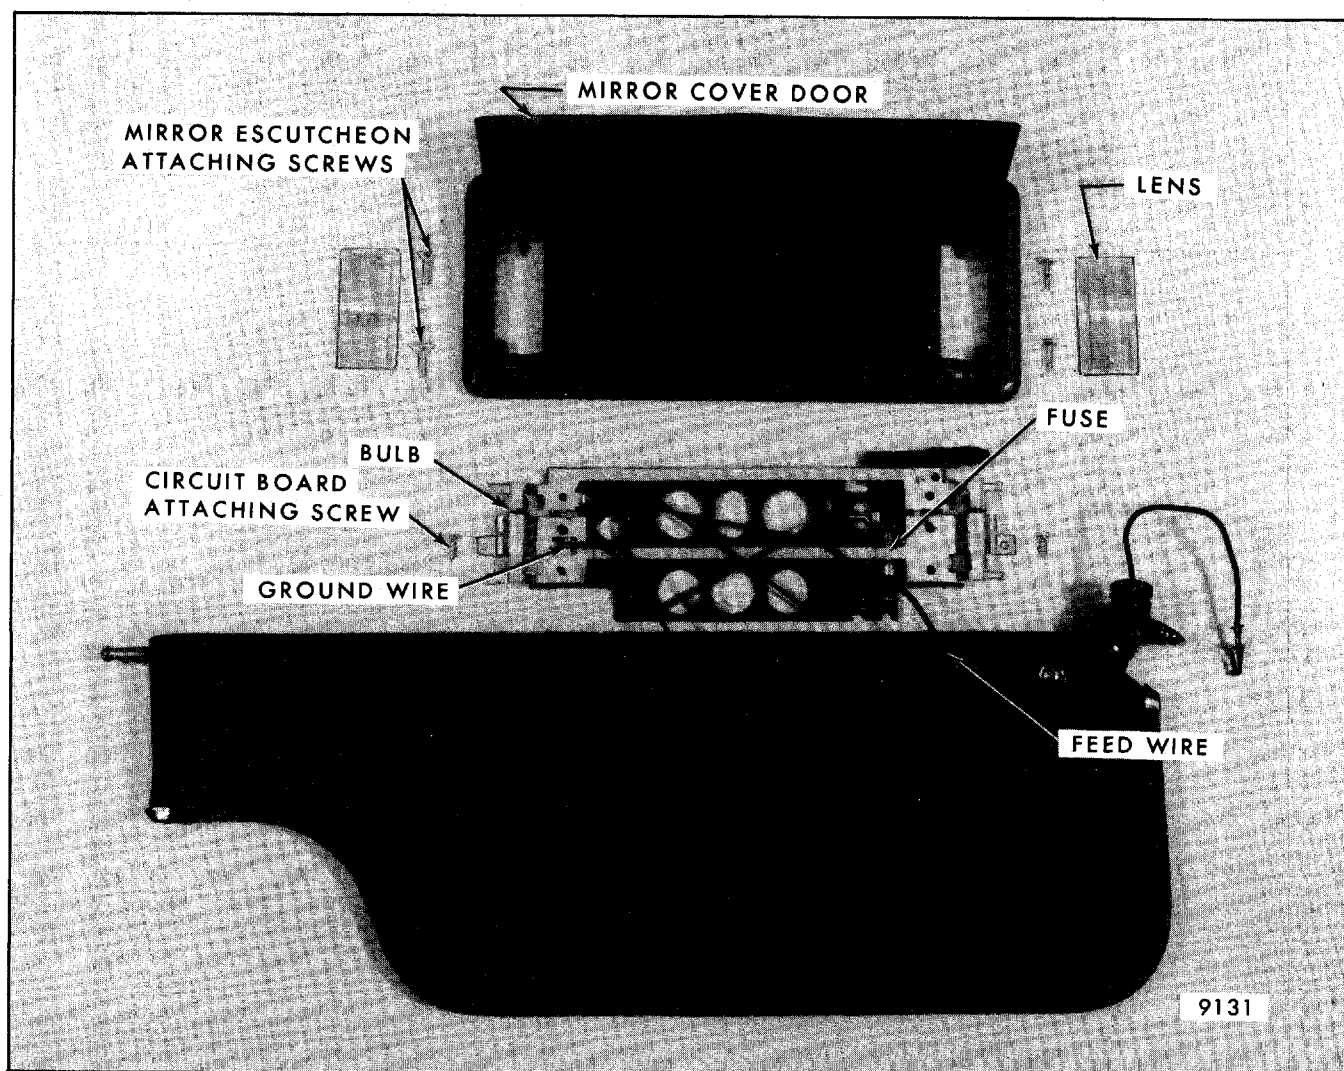

Fig. 8-15 - Vanity Mirror and Lamp Assembly
windshield opening to the top of the windshield pillar. At this point a connector attaches to the lamp harness (Fig. 8-15).
5. Disconnect feed and ground wire terminals (Fig. 8-15).